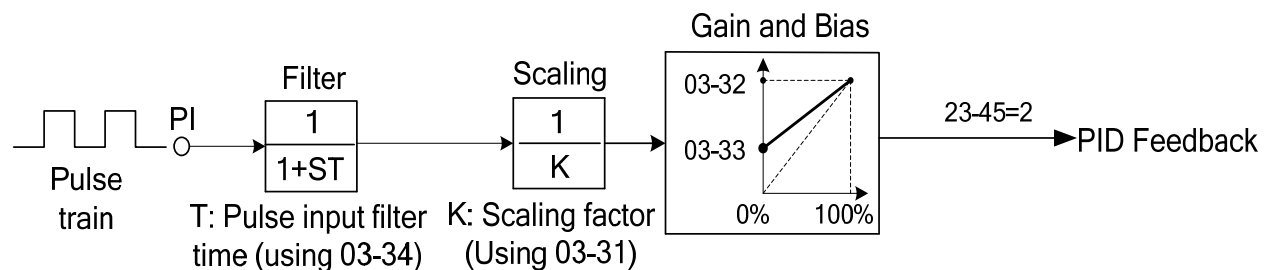

Figure 4.4.24 Pulse input adjustment
* Refer to Fig.4.4.24 for the pulse input specification.